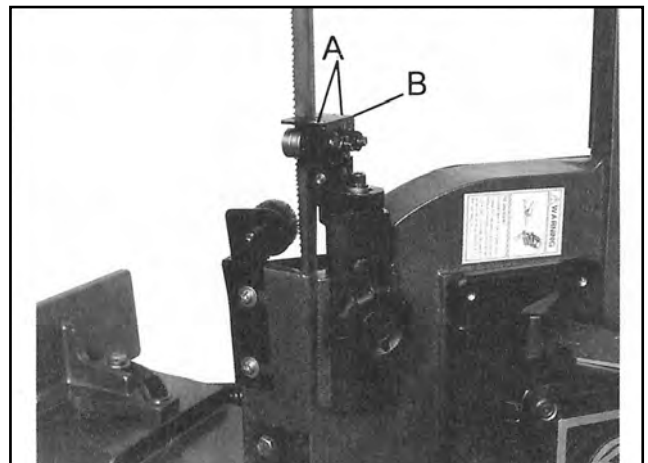

Fig. 2
3. Remove two screws (A, Fig. 2) and remove the deflector plate (B).